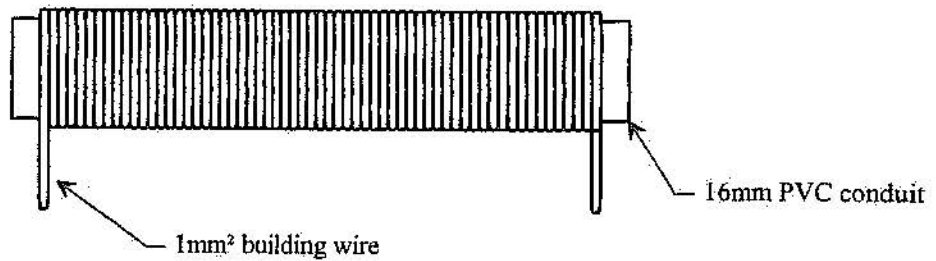

Figure 1
1. Construct a solenoid by winding 40 turns of 1mm² building wire around a 16mm PVC conduit former as shown in figure 1.